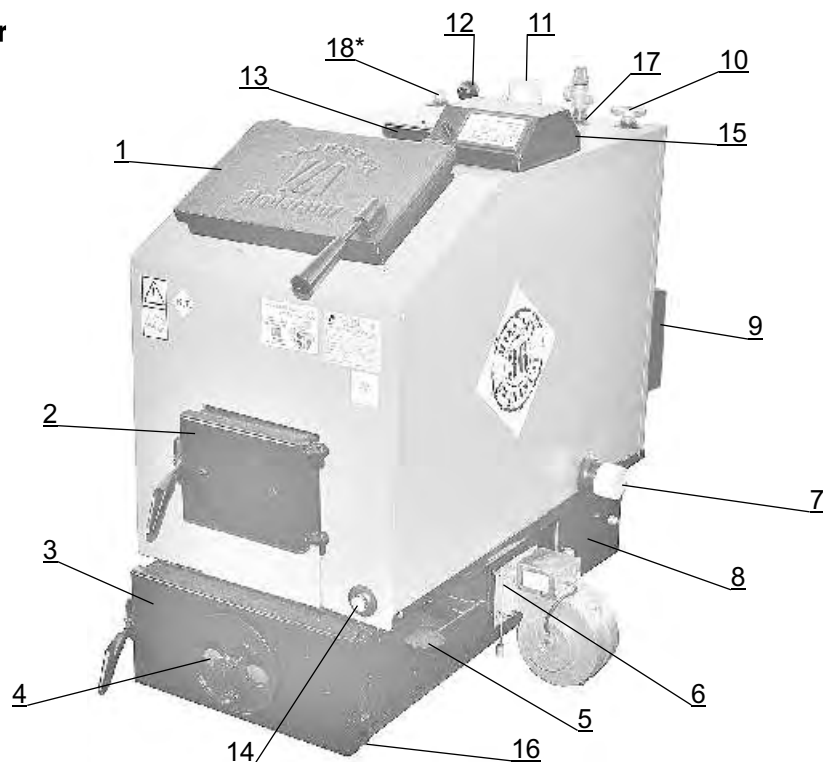

Fig. 1 Moderator boiler main parts
If the boiler is equipped with a thermal protection valve, then install the valve's sensor in the G 1/2 muff (12, fig. 1). Then install the safety valve.
Connect water supply pipe through the G1/2 valve (14, fig. 1.) using a flexible hose, which after filling is completed shall be disconnected. When filling open all venting valves in the installation and slowly close them until water overflows in the overflow pipe of the expansion vessel. Lossless installations may be supplied with raw water, as long as its hardness is less than 10 n. Otherwise the water shall be pre-treated. Install boiler accessories (handles and bakelite knobs).
Moderator boilers operated in closed systems shall be equipped with air supply system (designed by Moderator Sp. z o.o. for Moderator boilers – third party ventilation solutions are not recommended), safety valve and additionally with a thermal protection that releases thermal power excess to the atmosphere. These protections are installed in muffs welded into the upper coat of the boiler (items 12 and 17 on fig. 1).